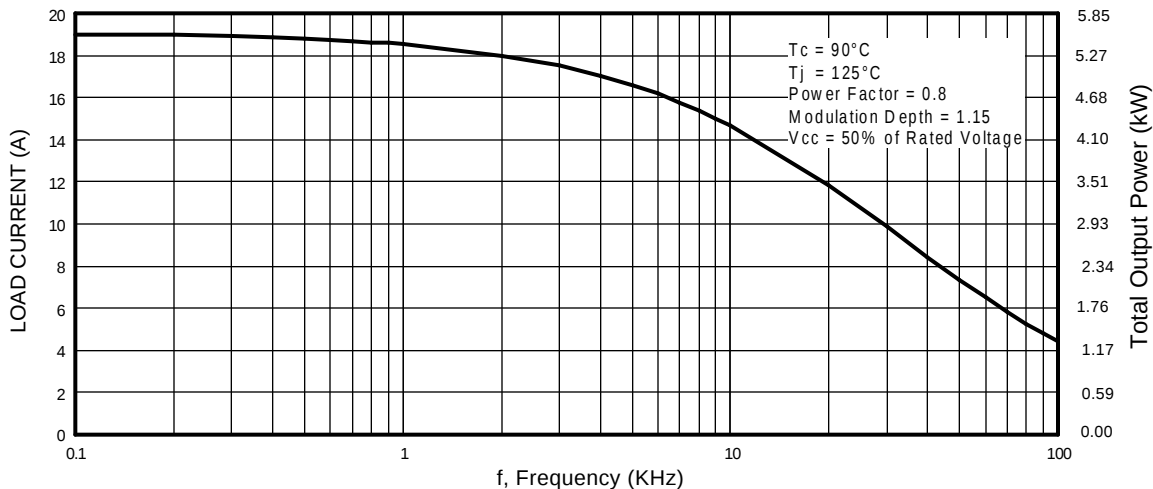

Fig. 1 - Typical Load Current vs. Frequency
- See Fig. 1 for Current vs. Frequency curve
12 A_{RMS} per phase (3.5 kW total) with T_C = 90°C, T_J = 125°C, Supply Voltage 360Vdc, Power Factor 0.8, Modulation Depth 115% (See Figure 1)